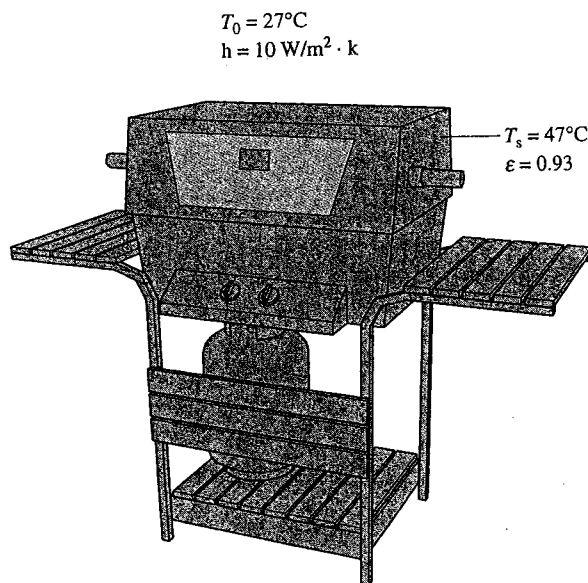

Fig. P2.52
2.52 The outer surface of the grill hood shown in Fig. P2.52 is at 47°C and the emissivity is 0.93. The heat transfer coefficient for convection between the hood and the surroundings at 27°C is 10 W/m2 · K. Determine the net rate of heat transfer between the grill hood and the surroundings by convection and radiation, in kW per m2 of surface area.